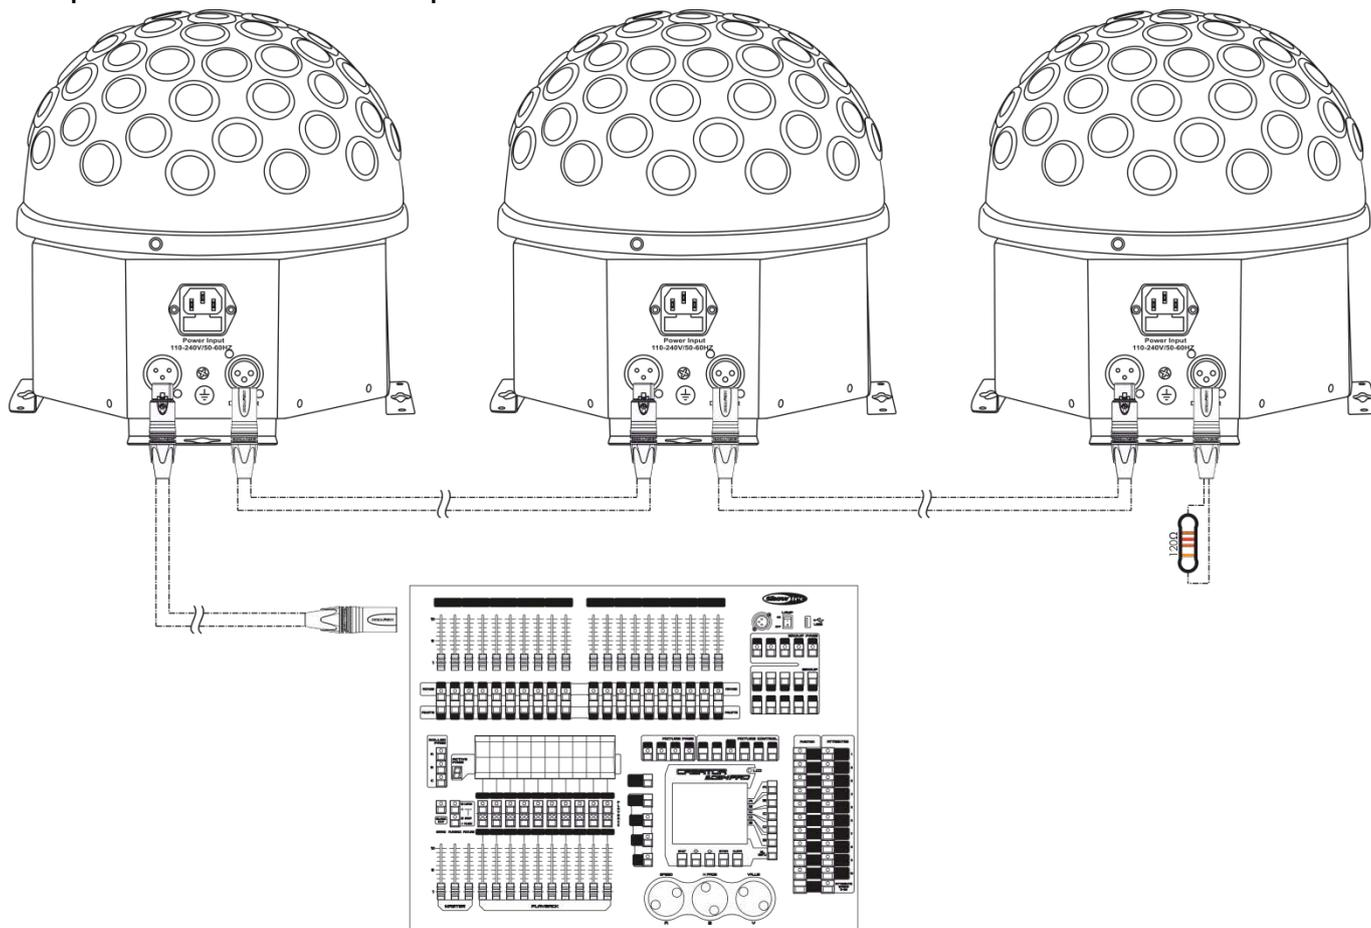

Fig. 03
- 04) Link the units as shown in fig. 03. Connect the first unit's DMX "out" socket with the second unit's "in" socket, using a DMX cable. Repeat this process to link the second, third, and fourth units.